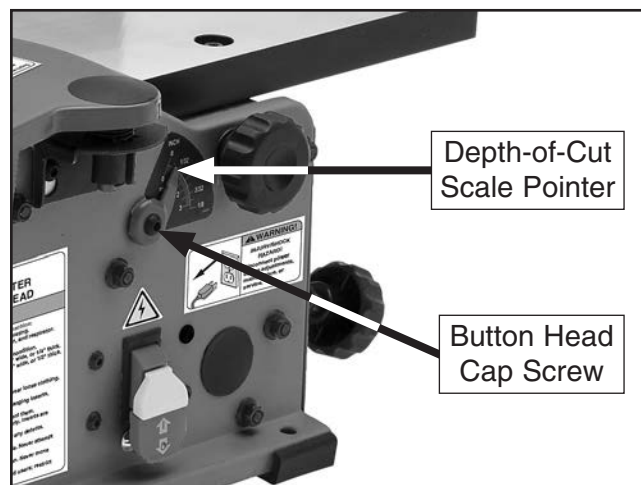

Figure 23. Location of depth-of-cut components.
4. Loosen button head cap screw on depth-of-cut scale pointer (see **Figure 23**), rotate pointer until it is aligned with "0" on scale, and tighten screw.